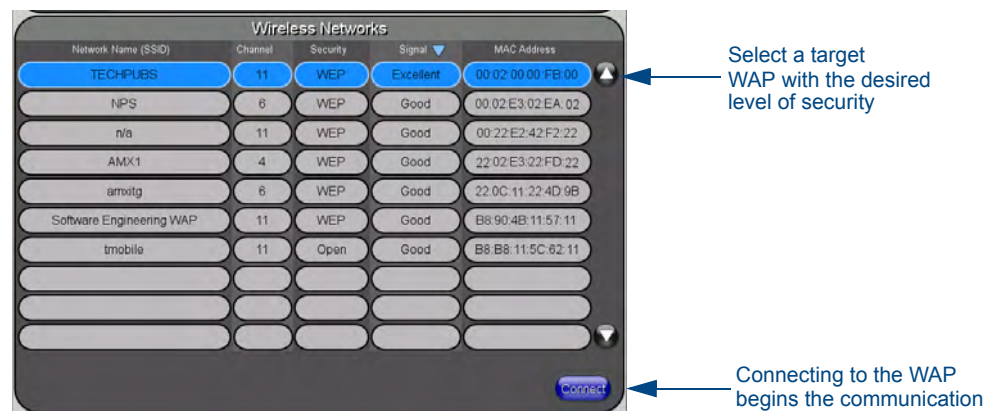

FIG. 20 Site Survey of available WAPs (Secured WAP shown selected)
3. Select a **WEP** secured WAP from within the *Site Survey* page, and press the **Connect** button (FIG. 20).